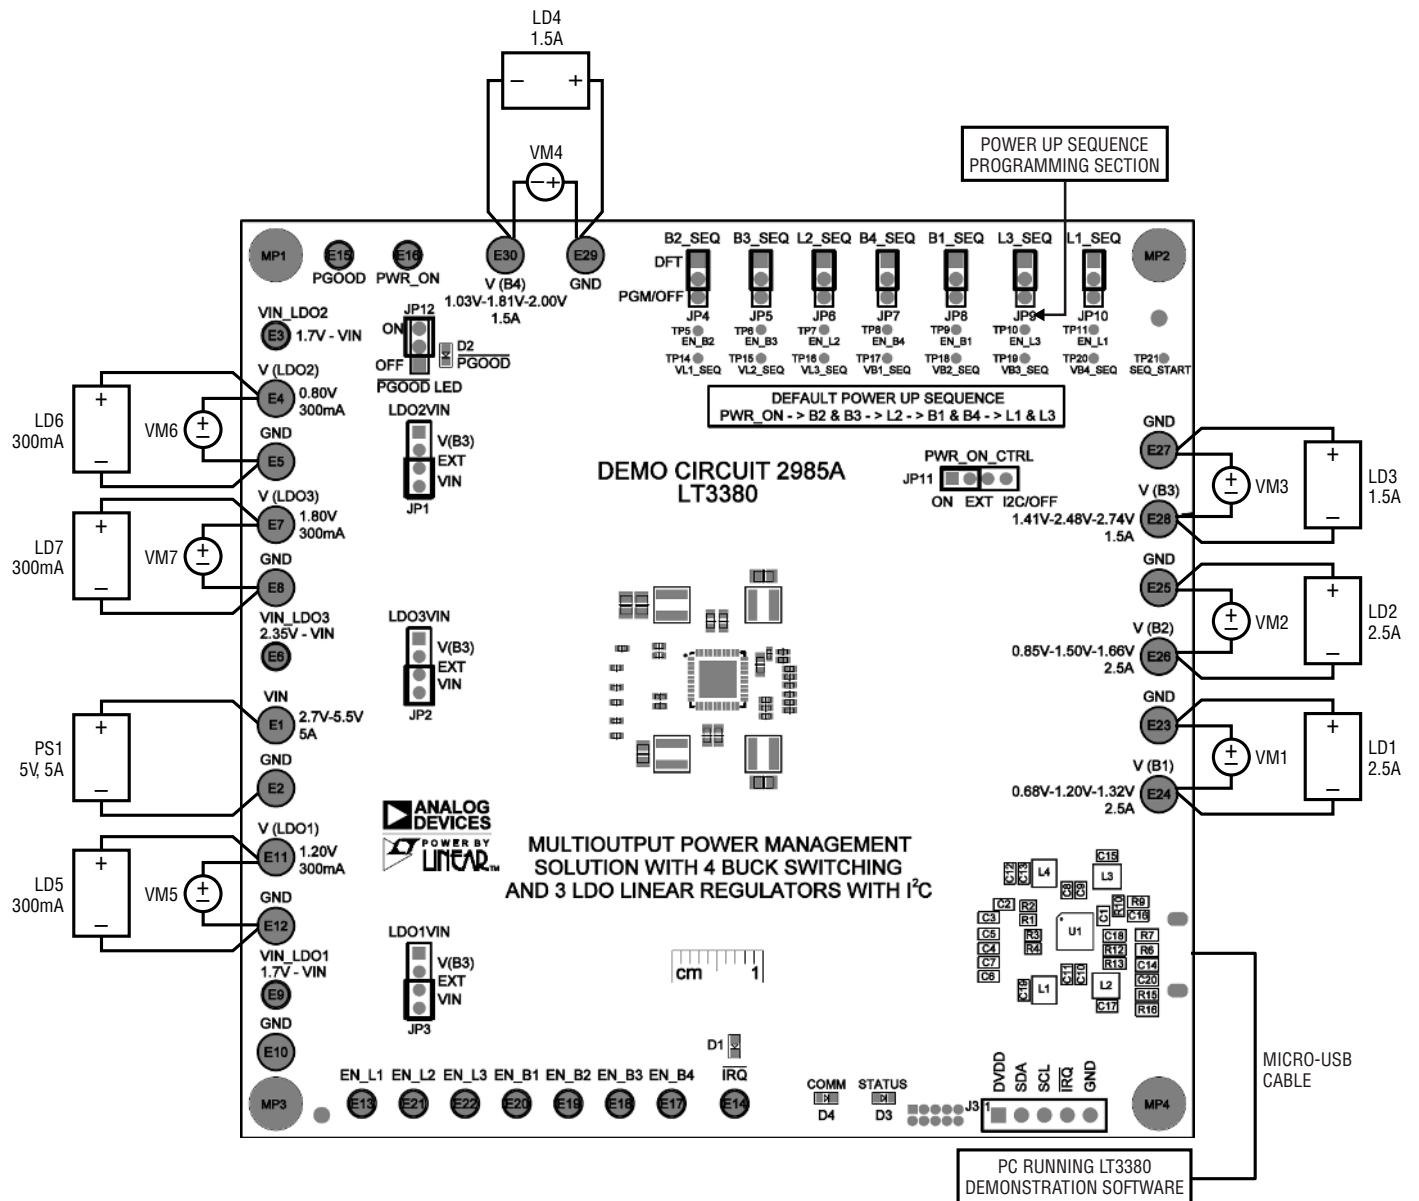

Figure 2. Test Setup for DC2985A Demo Board
1. Refer to Figure 2, configure the jumpers on the demo board as follows:
4. Set each electronic load to its corresponding current level indicated in Figure 2. Turn on each load. The PGOOD LED D2 should stay off, indicating all the outputs are still in regulation under loads. Note that if there are not enough electronic loads for all the regulators, this test can be done sequentially.
The DC2985A has a default power up sequence. User can also program the power up sequence by selecting JP4-JP10 to PGM/OFF position and connecting the output rails to the enable pins at the Power Up Sequence Programming Section shown in Figure 2. The start of the sequence is the rising edge of the PWR_ON pin. PWR_ON pin can be pulled up to VIN, pulled down to ground, or connected to an external command source by selection JP13, PWR_ON_CTRL jumper.